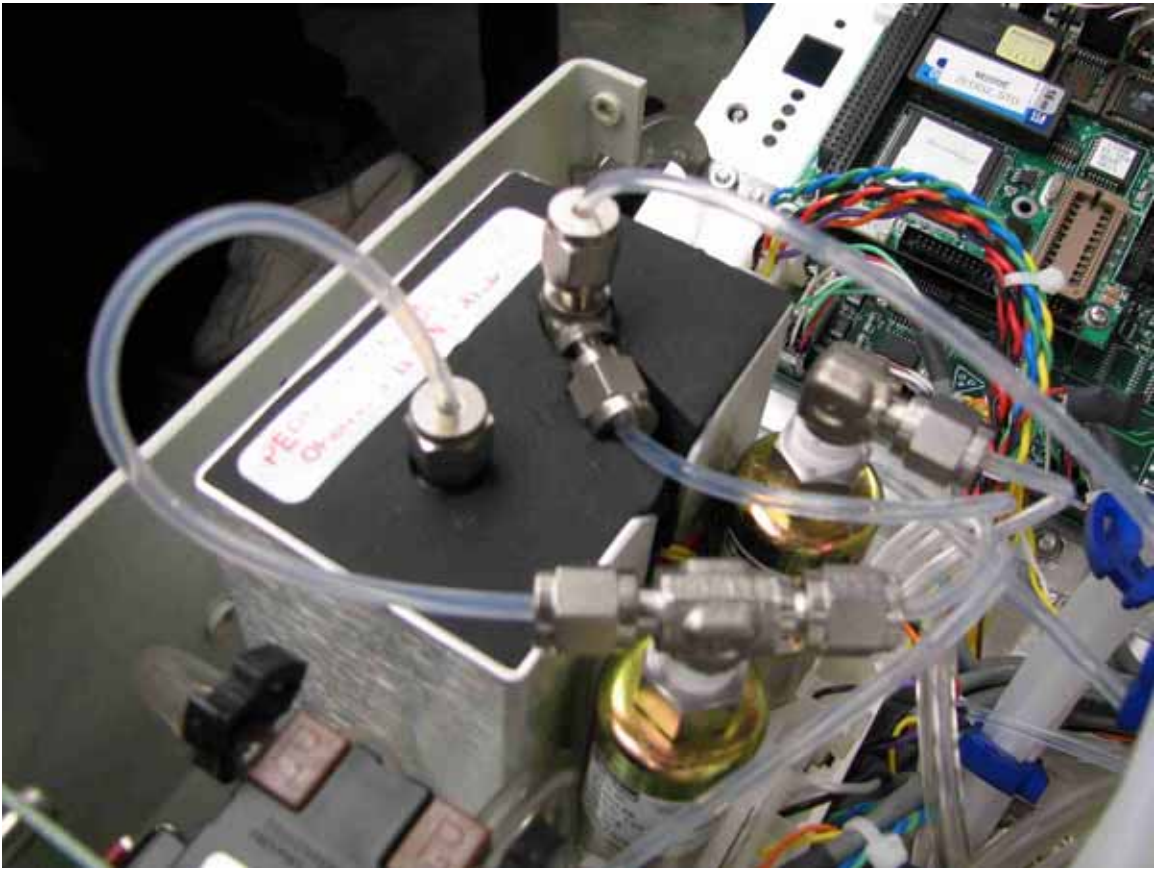

Figure 2
4. Remove this oven outlet fitting from the oven cap. Install the new 1/8" "T" (p/n FT33) connector using teflon tape (p/n HW36). Face the leg of the "T" towards the front / center of the oven cap as depicted in Figure 2.